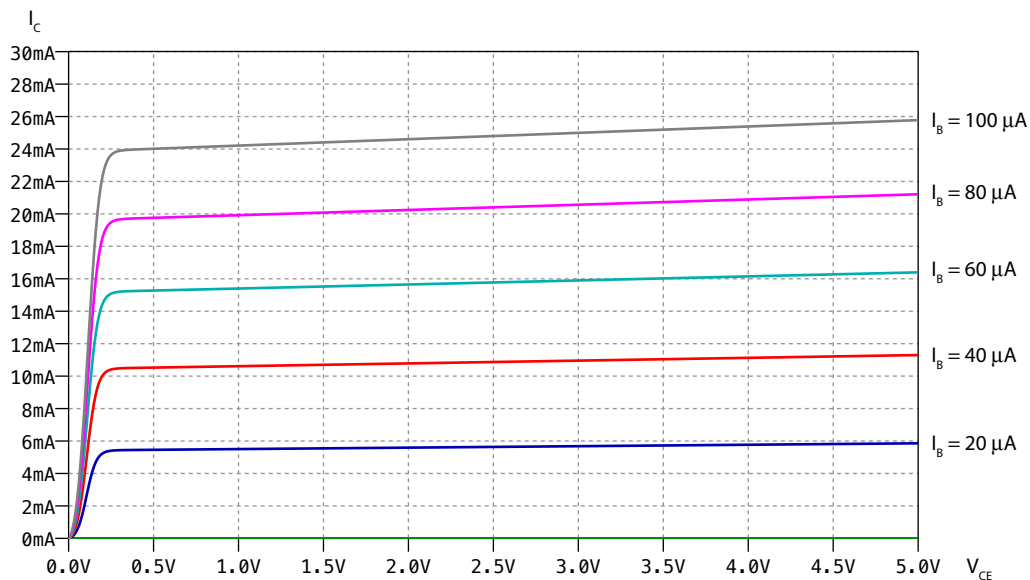
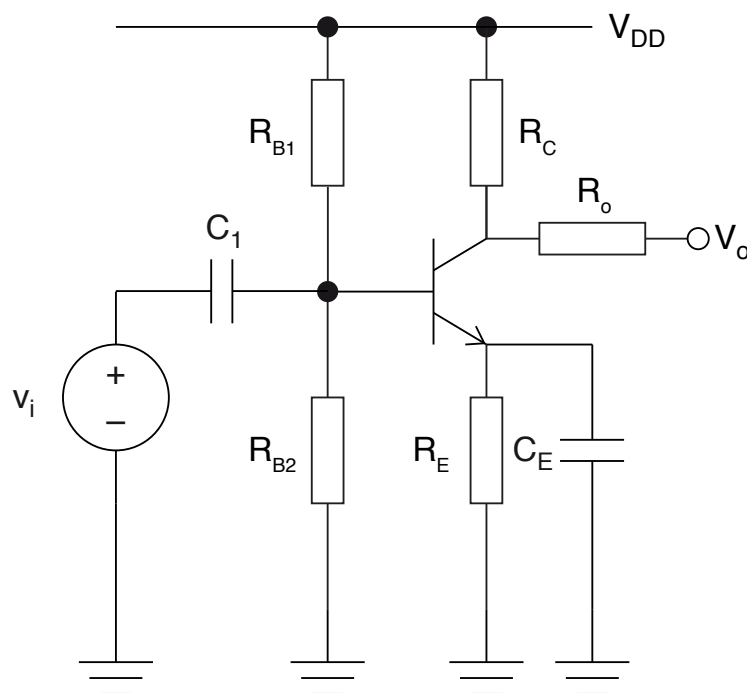
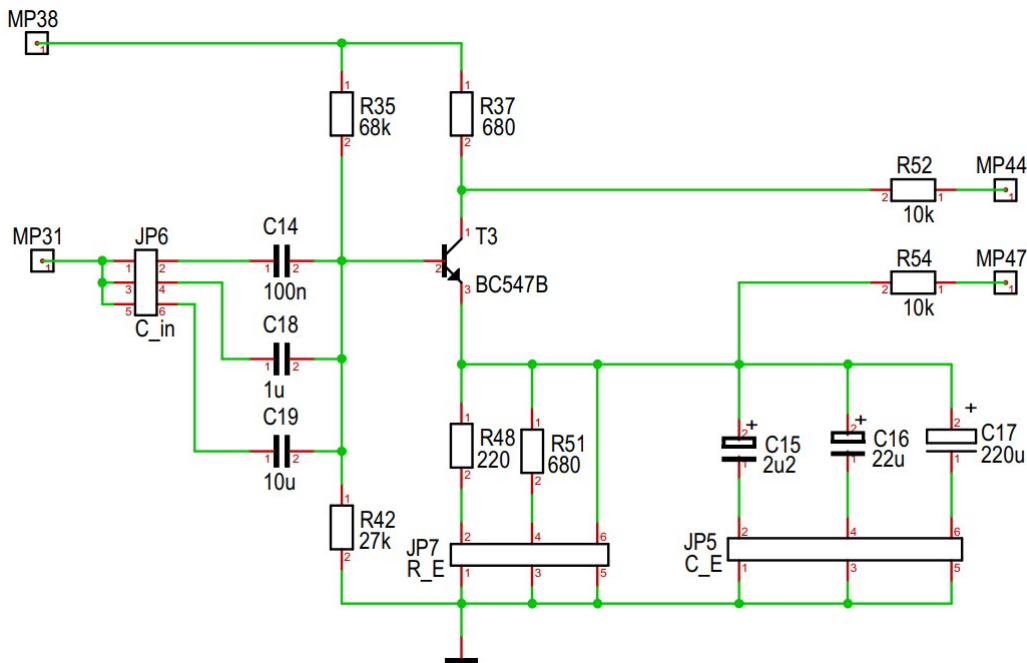

Figure 2.1.1
Figure 2.3.1
Figure 2.3.2: Schematic of the *BJT amplifier* circuit
Consider the CE amplifier in Figure 2.3.1 below, which uses the bipolar transistor whose output characteristics are shown in Figure 2.1.1. Take $R_o = 0$, $R_C = 680\,\Omega$ and $V_{DD} = 10\,\text{V}$. If your bias network generates $I_B = 40\,\mu\text{A}$, calculate the small-signal voltage gain $A_V = v_o/v_i$.
Consider the common-emitter amplifier shown in Figure 2.3.1. We will model the amplifier twice, once in time domain and once in the frequency domain, and compare the results.
- Set up a SPICE implementation of the circuit in Figure 2.3.1, using the following component values found on the electronics board: R_{35} , R_{42} , R_{37} , R_{52} , C_{14} , and C_{16} (see Figure 2.3.2 below). The transistor model is already included in LTSpice.
In the “BIPOLAR” section of the electronics board, we will use the *BJT amplifier* circuit, shown in Figure 2.3.2.